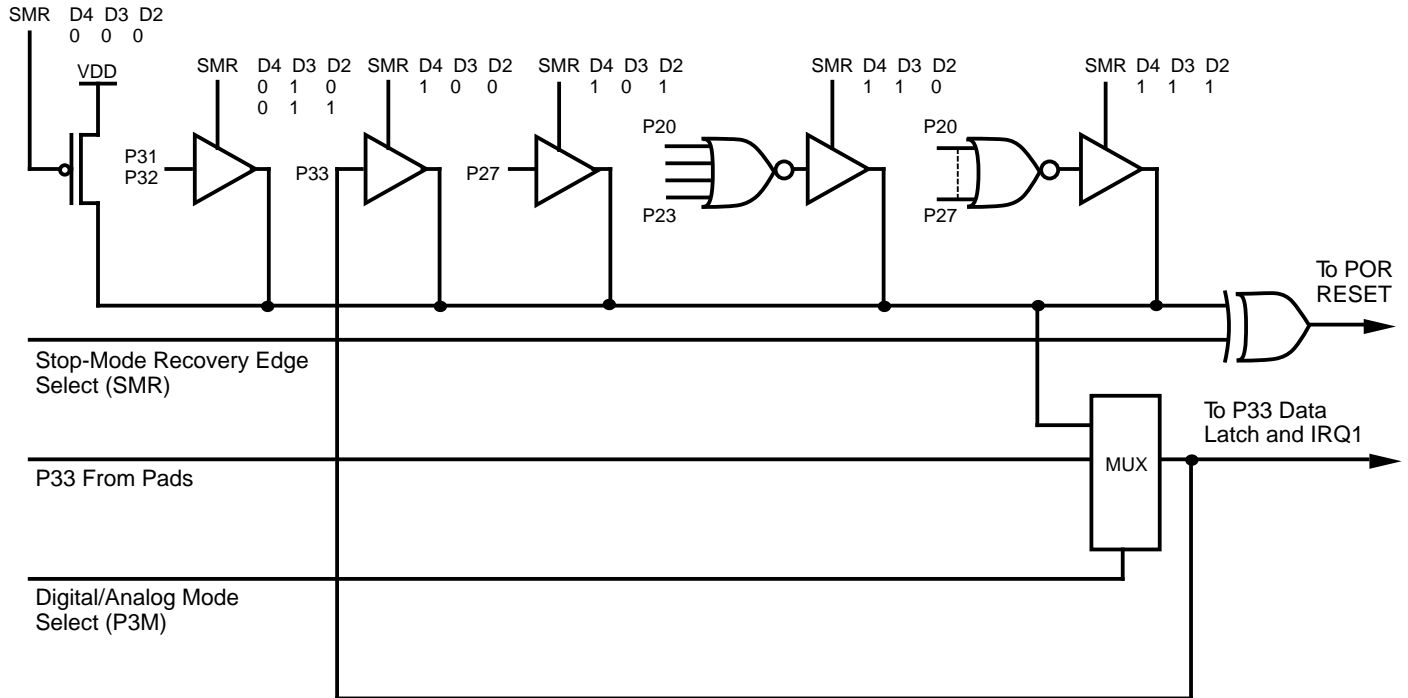

Figure 27. Stop-Mode Recovery Source
**Stop-Mode Recovery Source (D4-D2).** These three bits of the SMR specify the wake-up source of the Stop-Mode Recovery (Figure 27 and Table 6).